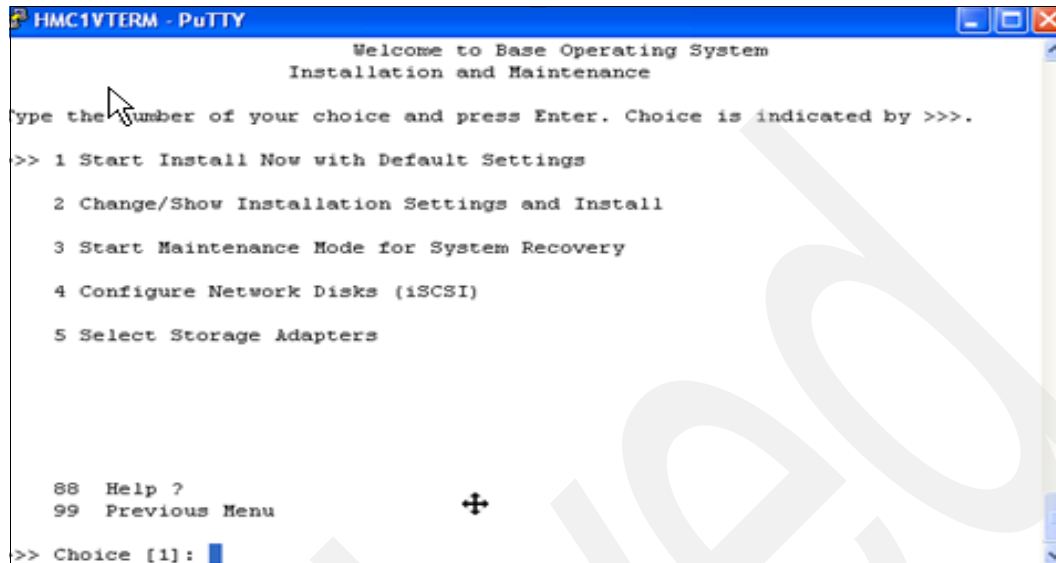

Figure 4-17 Base Operating System Installation and Maintenance window
- k. Select option **2** Change/Show Installation Settings and Install on the Base Operating System installation window, as shown in Figure 4-17.